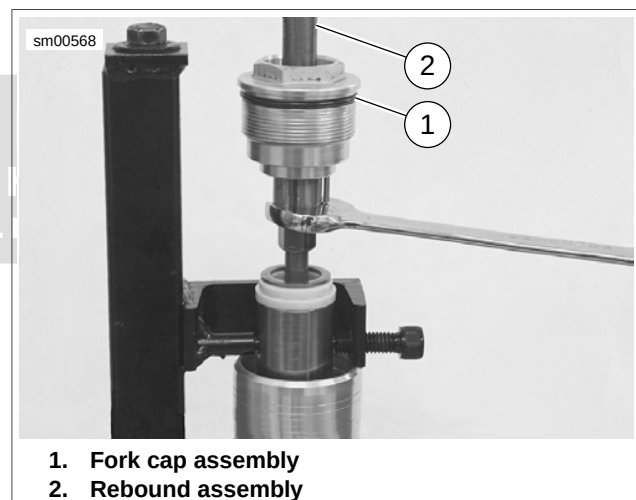

Figure 2-81. Rebound Assembly and Fork Cap Assembly
- a. Lightly turn the rebound adjuster screw on top of the rebound adjuster assembly (9) counterclockwise till it stops.
3. Fully thread rebound adjuster assembly (9) onto the damper rod assembly (11) until it lightly bottoms. Do not tighten.
4. Thread the damper locknut (10) until it bottoms lightly on the rebound adjuster assembly. Do not tighten.
5. Turning the rebound adjuster screw (9) counterclockwise three full turns or until stops.
6. See Figure 2-81. Tighten the damper locknut (10) to 22-30 ft-lbs (30-40 Nm).